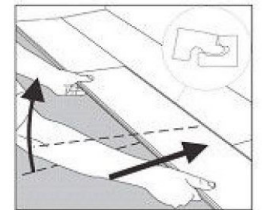

Figure 2
10. Begin the second row with the cut piece from the first row (**Figure 2**). If the cut piece is shorter than 20 cm (8 in), do not use it. Instead, begin with a new plank that is at least 20 cm in length and allows 20 cm between the end joints on the adjacent planks.
11. Position the first plank of the second row by angling it up slightly, pushing forward and interlocking the side tongue (**Figure 2**). Slide the plank to the left to align the edges of the end joint.